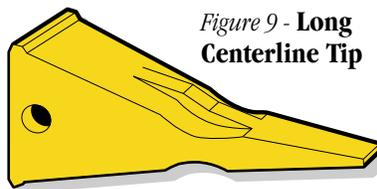

Figure 9 - Long Centerline Tip
- The long tip (see figures 9 and 10) is designed for low impact, highly abrasive conditions where breakage is not a problem. This tip has the greatest amount of potential wear material.